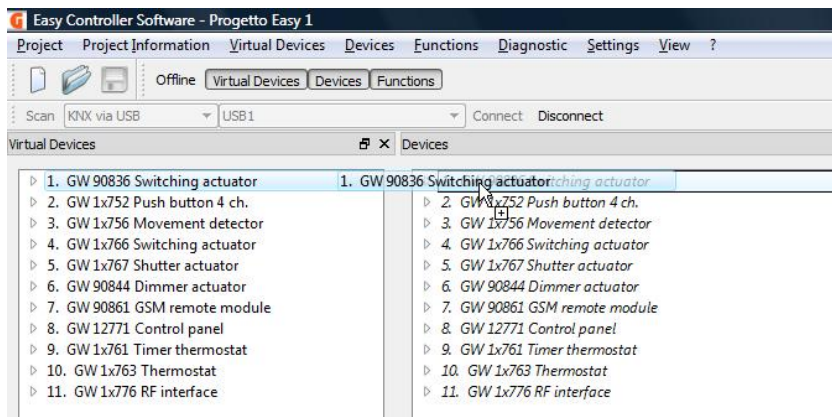
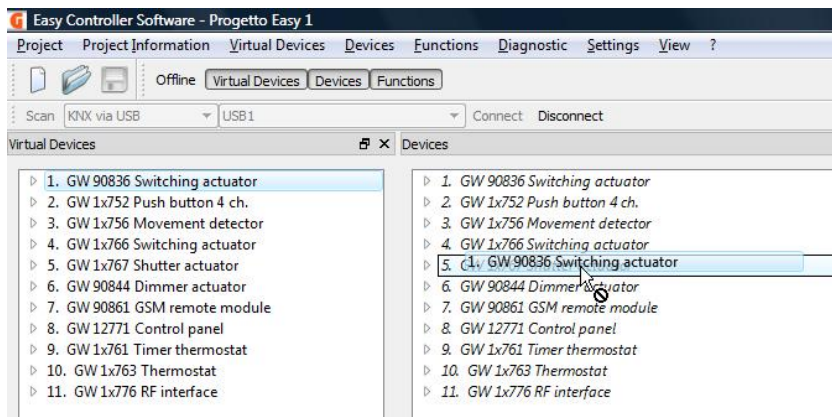

Fig.79 - Correct association by dragging
Fig.80 - Wrong association by dragging
- B. Drag the device from the **Virtual devices** list directly to the device in the **Devices** view; if the devices are the same type, the operation is permitted, as shown in figure 79; otherwise the operation is not permitted, as shown in figure 80.